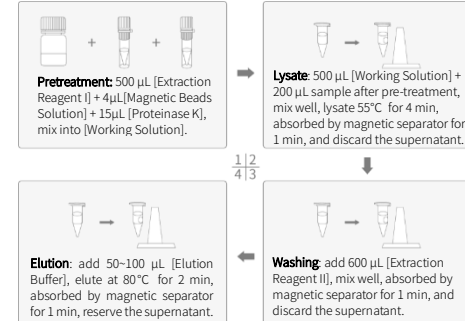

Figure 1 Manual Operation for BF-A
1. Manual Operation (Figure 1)